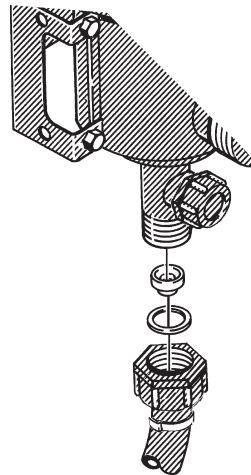

Fig 19
**IMPORTANT!** Note direction of restrictor in Fig 19.
Disconnect the hose (Fig 19) at the self cleaning filter, place the restrictor in the hose and reconnect.